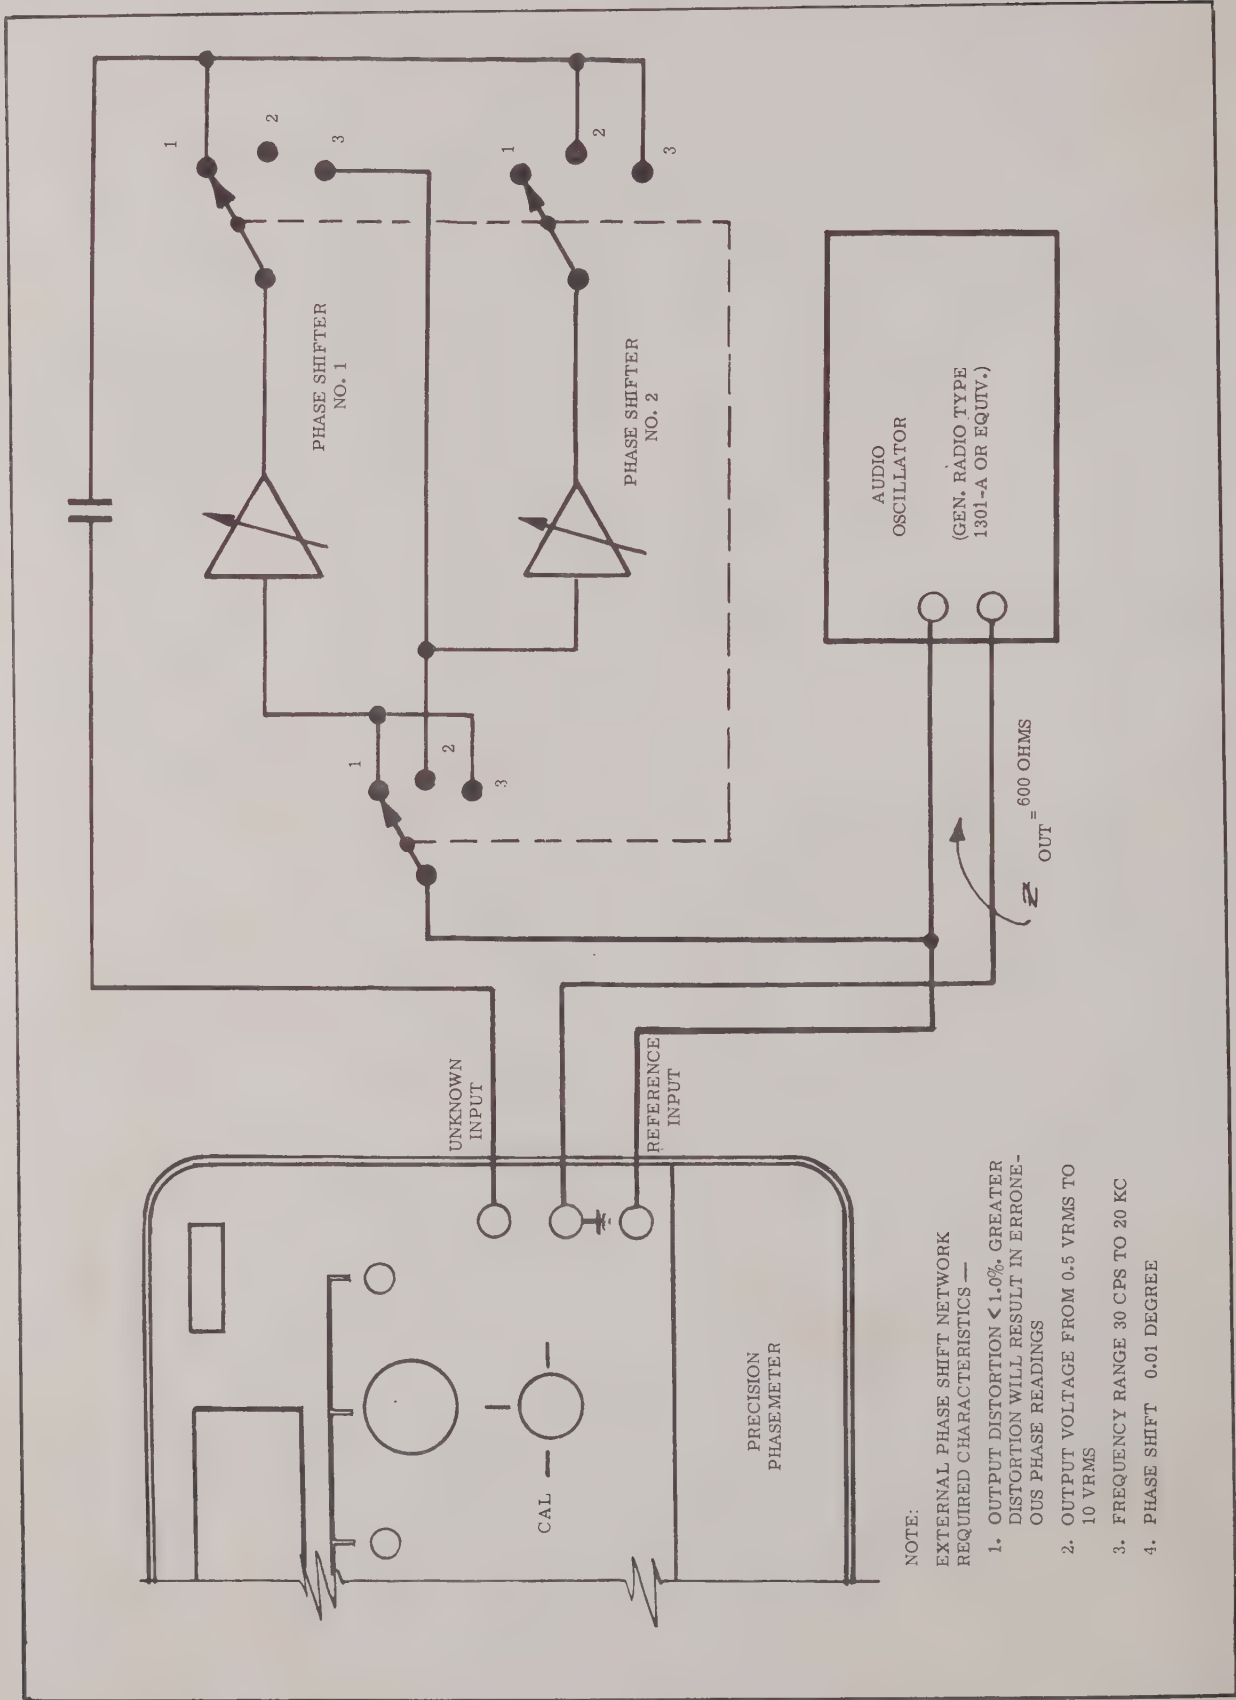

Figure 11-1. Test Circuit
The procedure for making the alignment check is outlined in paragraph 11-5 and the required test circuit is given in figure 11-1.
Phasemeter accuracy should be rechecked at least every six months in accordance with the following procedure. The only additional equipment required includes the two uncalibrated phase shifters described in paragraph 11-4 and an audio oscillator (General Radio Type 1301-A or equivalent). The required characteristics of the phase shift networks are noted on the schematic diagram of the alignment test circuit, figure 11-1.
3. Connect one of the variable phase shift network outputs to the phasemeter UNKNOWN INPUT terminal. Refer to figure 11-1.